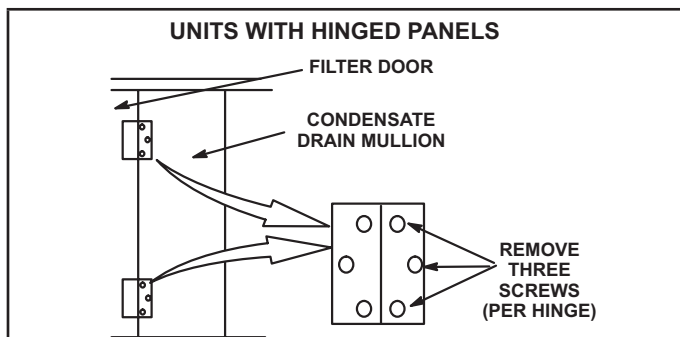

FIGURE 7
- 2 - Remove six screws from filter access door. Refer to FIGURE 7.